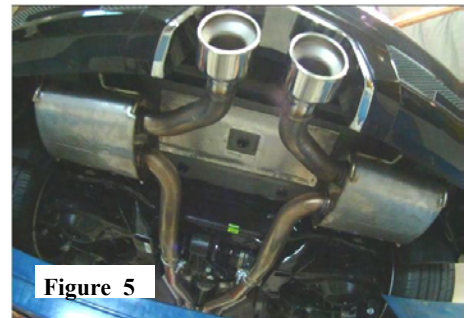

Figure 5
6. Check your exhaust system for proper clearance under the vehicle and also for tip alignment. Once tip position has been determined to be correct, position clamps making sure the bolt is positioned between the pipe notch. (See Figs. 5,6 & 7)
7. Tighten clamp bolts to 35 lb.ft. torque. Tighten (4) flange bolts. Reinstall cross-brace using factory hardware.